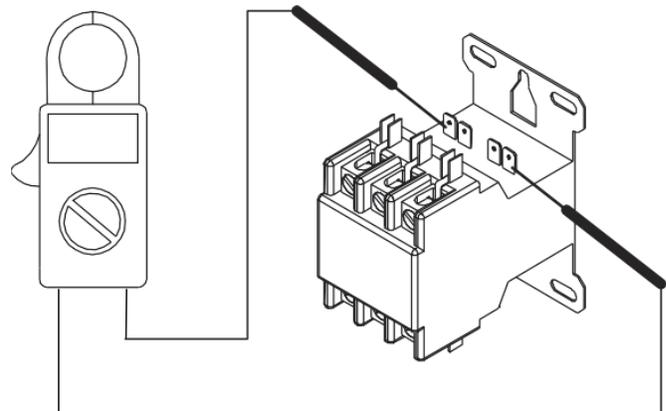

Figure 8
1. Turn Power "ON" and rotate thermostat dial to the maximum setting, with water temperature in tank below the thermostat setting, the contactor(s) will close. With the contacts closed, check for 120 volts across operating coil terminals (see Figure 8).
4. Check for 120 volts across operating coil terminals (see Figure 8).